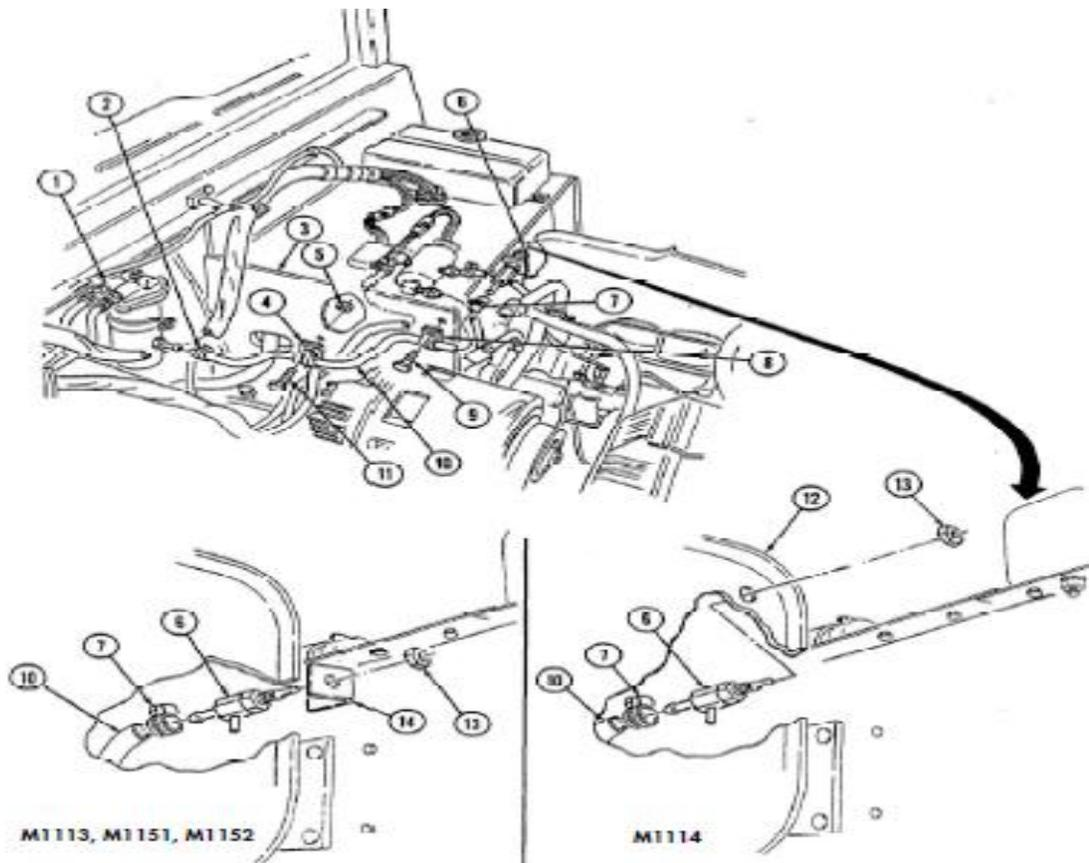

Figure 73
(3) Fuel Filter Drain Hose:
(a) Inspect to ensure that the Fuel Filter Drain Hose (10) is properly installed on the cowl panel (3) **Figure 73** and that it does not come into contact with the 400 Amp Alternator.